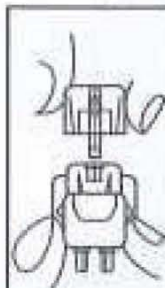

Fig.3
(1) Mounting. To protect the stylus from damage during mounting remove the stylus assembly from the cartridge body (see Fig.3). Note. Mounting is simpler if connecting leads are attached before screwing cartridge into headshell.
Stylus replacement. The stylus is easily removed. Grasp the stylus housing and withdraw gently (see Fig.3). To replace the